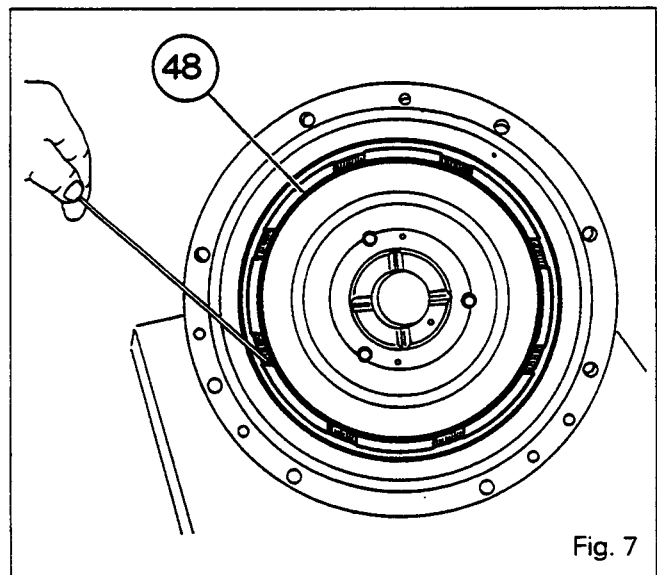
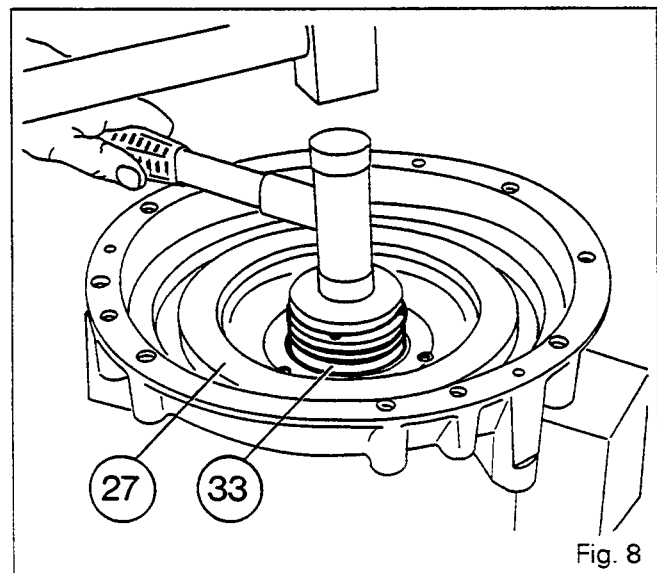

Fig. 7
Fig. 8
9. Extract circlip (37) and take out lug washer (38).
10. Withdraw shaft (36) from the front of the cover.
11. Remove washer (39).
12. Withdraw piston (48) from the cover (Fig.7).
13. Remove seals (22) and (23) and discard them.
15. Take out needle-roller bearing (32) and discard it.
16. Drive ring carrier (33) out of cover (27) (Fig.8) (Work from the rear of the ring carrier using a plastic-faced mallet as a drift).